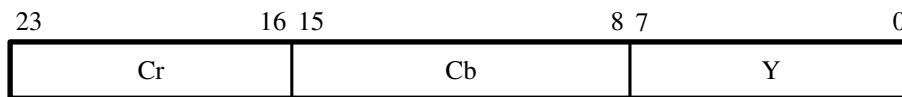

Figure 22. YCrCb 4:4:4 Color Space.
- YCrCb 4:4:4 — This format is the normal YCrCb with all components as shown in Figure 22. This mode is